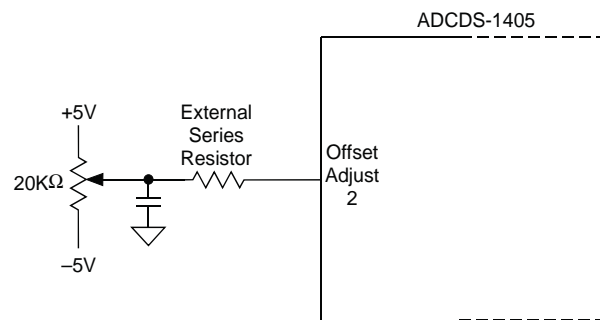
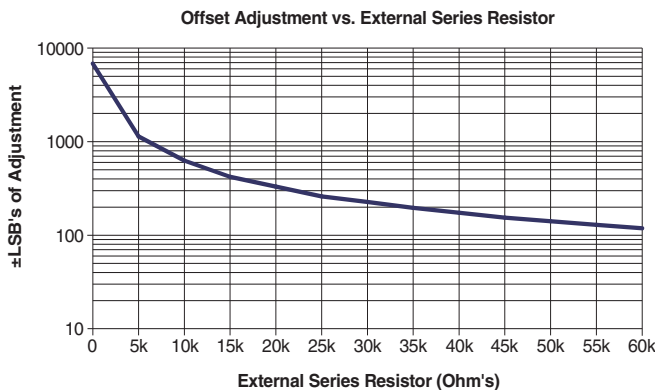

Figure 3. Offset Adjustment Circuit
Figure 6. Offset Adjustment vs. External Series Resistor
- If using the suggested offset and gain adjust circuits (Figures 3 & 5), place them as close to the ADCDS-1405's package as possible.
Manual offset adjustment for the ADCDS-1405 can be accomplished using the adjustment circuit shown in Figure 3. A software controlled D/A converter can be substituted for the 20KΩ potentiometer. The offset adjustment feature allows the user to adjust the Offset/Dark Current level of the ADCDS-1405 until the output bits are 00 0000 0000 0000 and the LSB flickers between 0 and 1. Offset adjust should be performed before gain adjust to avoid interaction. The ADCDS-1405's offset adjustment is dependent on the value of the external series resistor used in the offset adjust circuit (Figure 3). The Offset Adjustment graph (Figure 6) illustrates the typical relationship between the external series resistor value and its offset adjustment capability utilizing  $\pm 5V$  supplies.